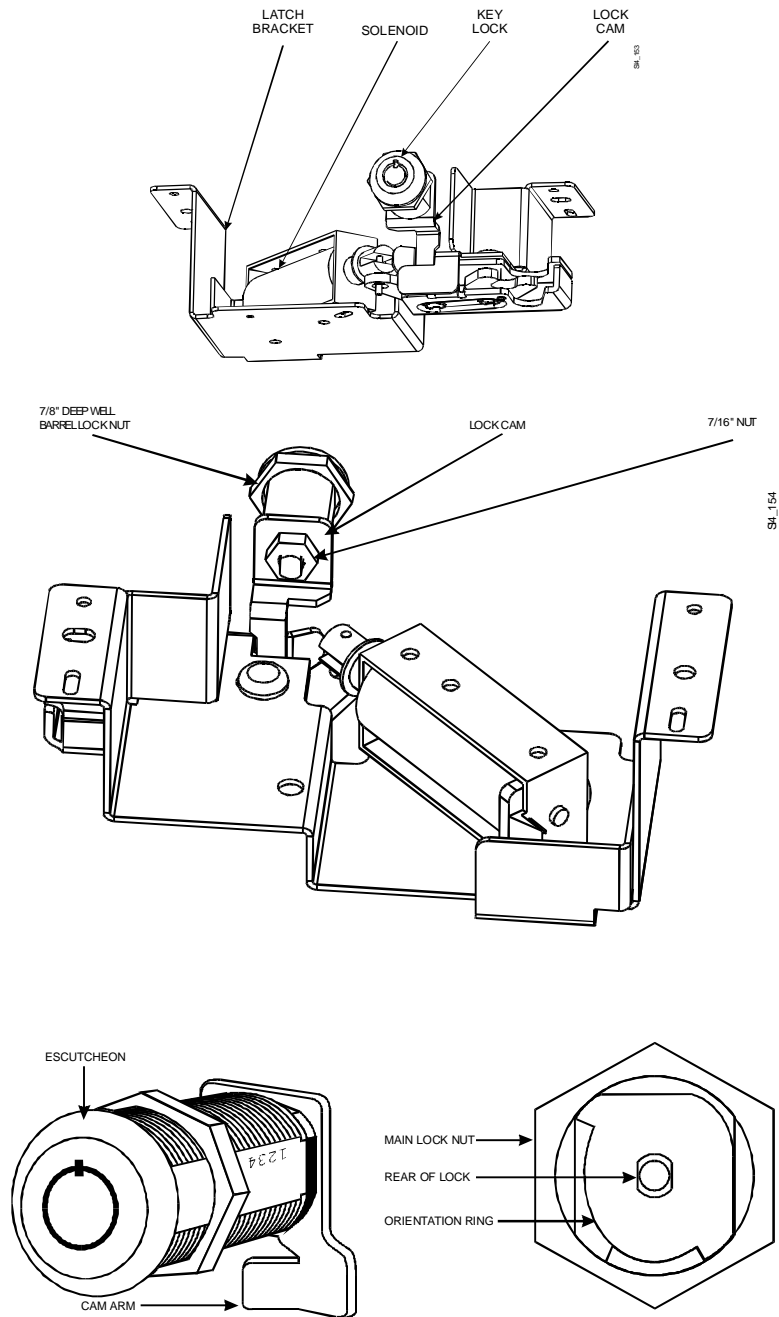

Figure 9-1 Accessing And Replacing SCM Locking Mechanism And Key Lock
Refer to Figure 9-1 for details on accessing and replacing an SCM solenoid locking mechanism and key lock.
2. On the SCM cabinet, use a 7/16" socket to remove the lock cam from the key lock. There may be a large spacer washer behind the lock cam. An assembly view of this key lock is shown in Figure 9-1.